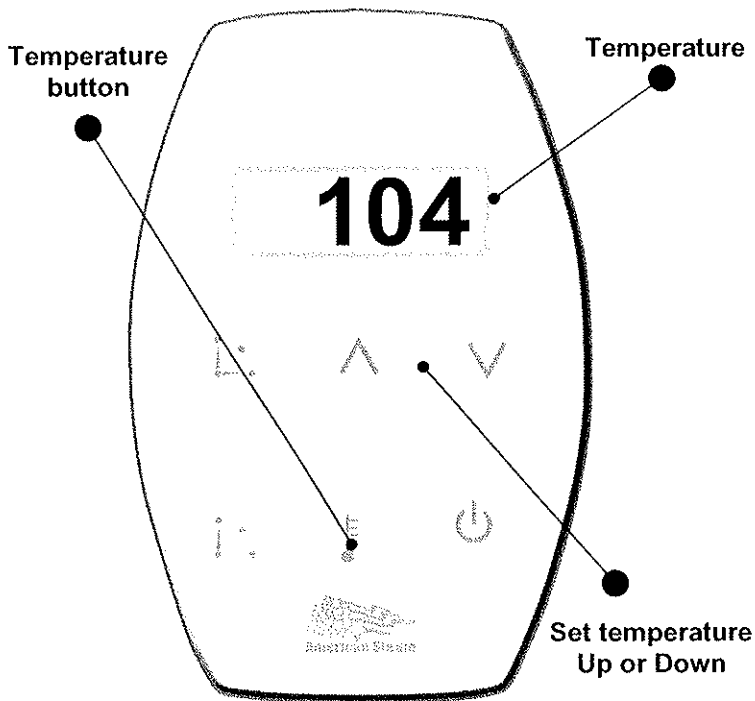

Figure 4
3. **To set the temperature** turn unit on, then press the temperature button. The display will flash showing the current set point for the temperature. Using the up and down buttons adjust the temperature to your preferred setting. After 4 seconds of no button pushes the new temperature setting will be set and stored for the next steam bath session, and the current room temperature will display on the control. To change between Fahrenheit and Centigrade, press the temperature button. The display will flash, then press and **HOLD** the temperature button for 4 seconds then release. The display will change from F to C or vice versa. (See figure 4.)